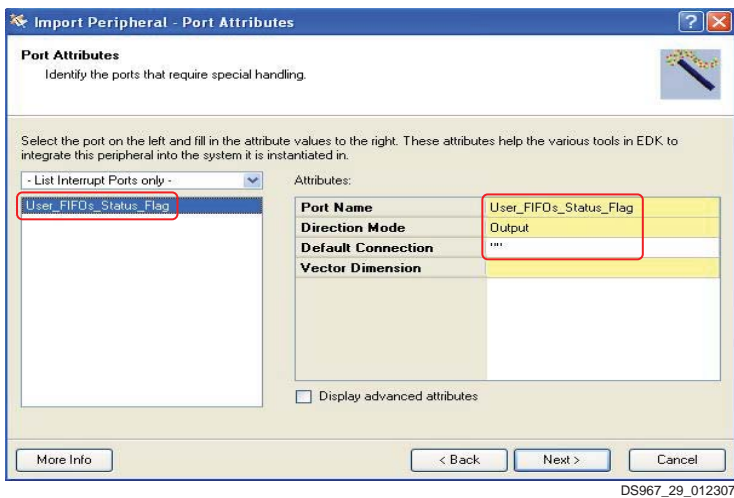

Figure 29: Defining the Advanced Attributes of the User Ports
12. In the Port Attributes window, make the selections shown in Figure 29 to identify the ports that require special handling. Set the attributes to the user ports and user interrupts ports, if any. Because in this custom IP only the interrupt pin comes out from the user logic side, accept the default values.